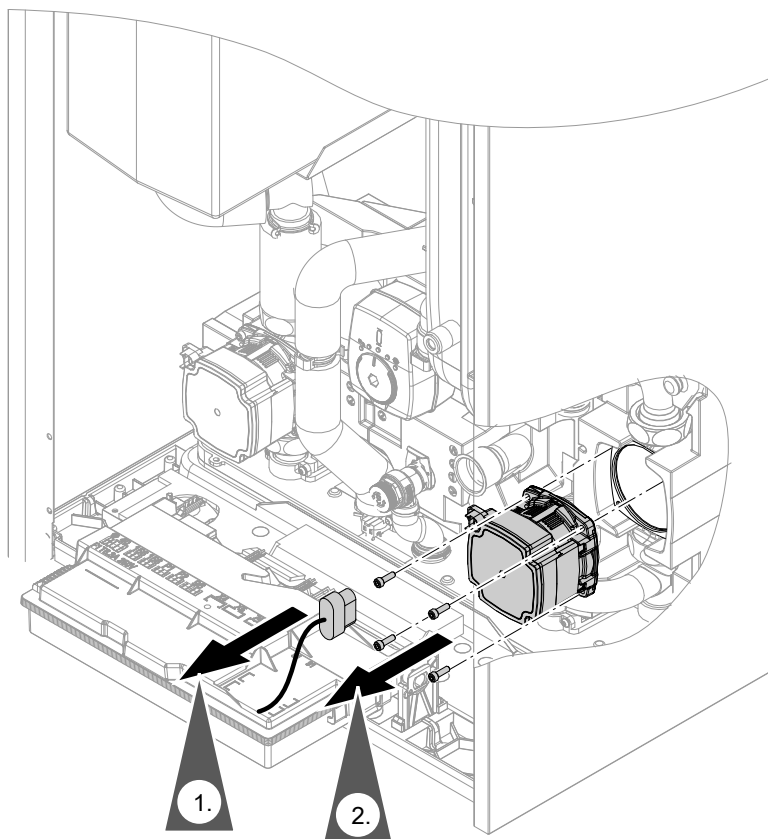

Fig. 96
- Circulation pump connection plugs: See Fig. 96.